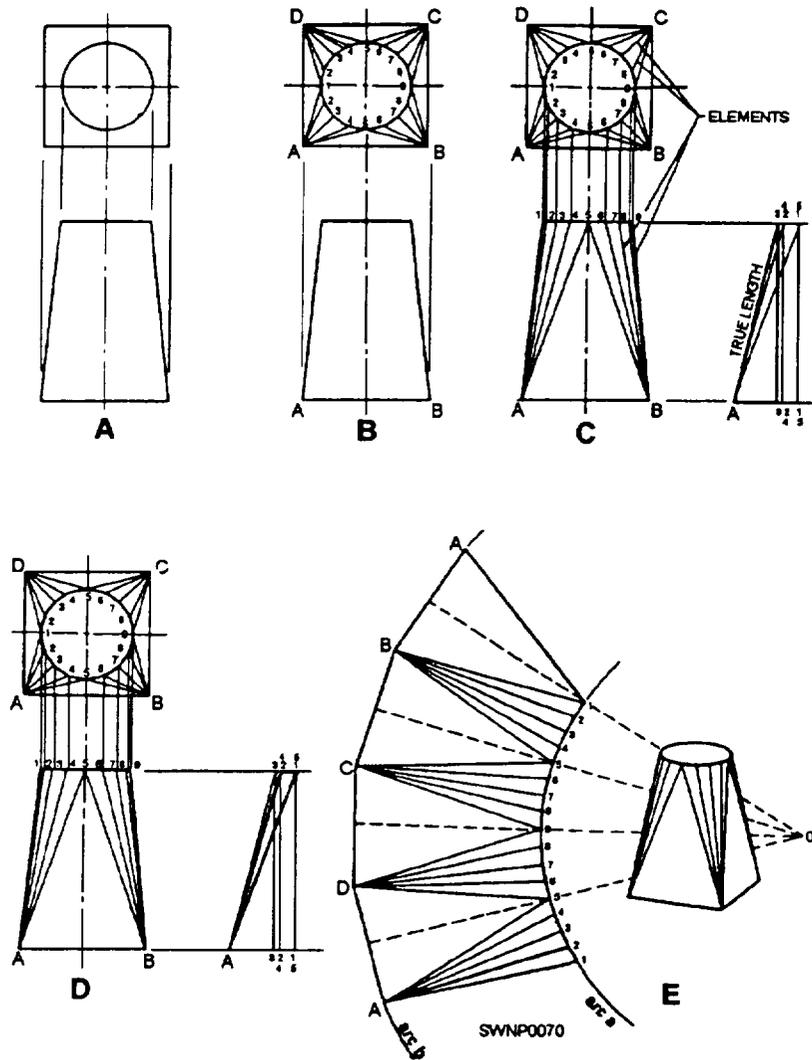

Figure 2-53.—Triangular development of a transition piece.
The steps in the triangulation of a warped transition piece joining a large, square duct and a small, round duct are shown in figure 2-53. The steps are as follows:
1. Draw the top and front orthographic views (view A, fig. 2-53).
2. Divide the circle in the top view into a number of equal spaces and connect the division points with AD (taken from the top part of view D, fig. 2-53) from point A. This completes one fourth of the development. Since the piece is symmetrical, the remainder of the development may be constructed using the lengths from the first part.
It is difficult to keep the entire development perfectly symmetrical when it is built up from small triangles. Therefore, you may check the overall symmetry by constructing perpendicular bisectors of AB, BC, CD, and DA (view E, fig. 2-53) and converging at point O. From point O, swing arcs a and b. Arc a should pass through the numbered points, and arc b should pass through the lettered points.